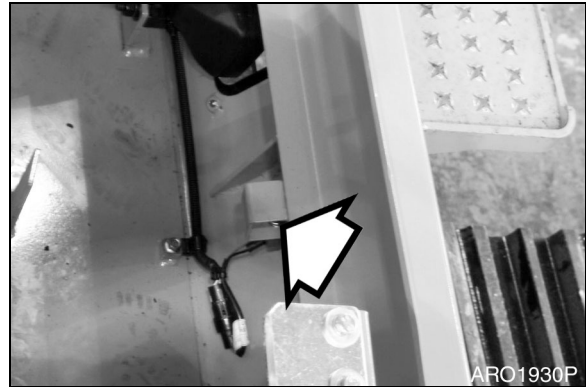

Figure 94
3. Turn fuel pump switch (Figure 94) inside of battery box on front side to "ON" position.